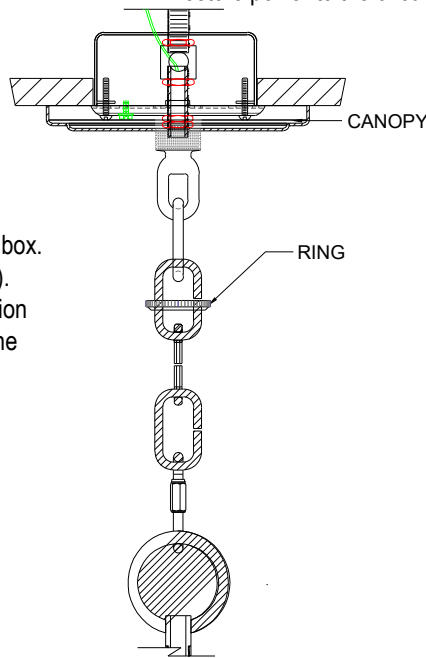

FIGURE-03
8. Slide the canopy up the chain and fasten using the threaded ring to the ceiling. (SEE FIGURE-03)